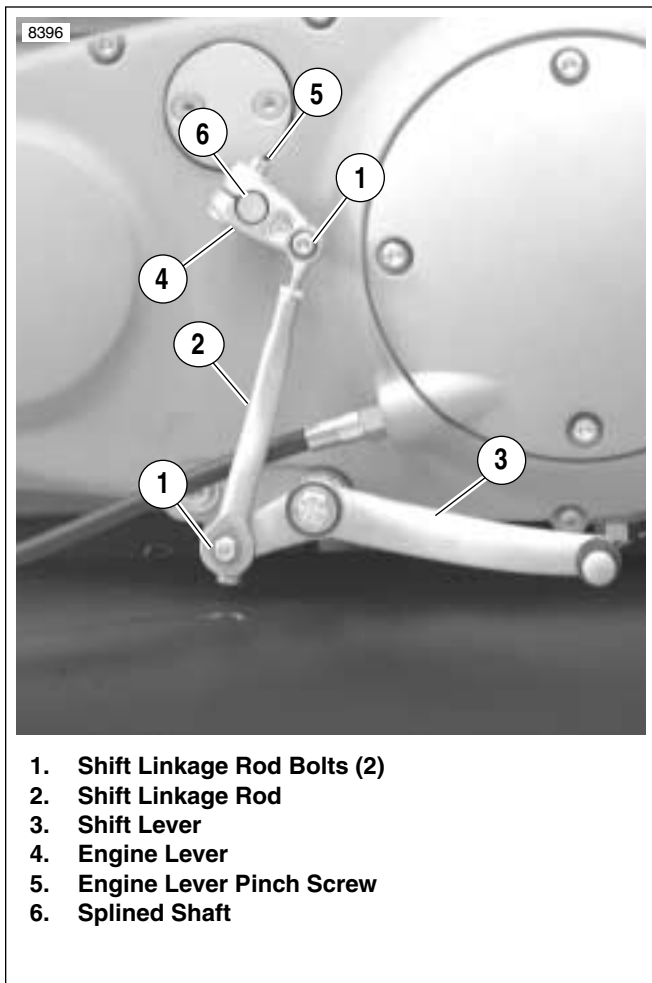

Figure 1. Shift Linkage
1. See Figure 1. Remove upper and lower shift linkage rod bolts (1). Remove shift linkage rod (2) from shift lever (3) and engine lever (4).
2. Remove pinch screw (5) and engine lever (4) from splined shaft (6). Discard engine lever (4), shift linkage rod (2) and hardware (1 and 5).
2. See Figure 1. Apply LOCTITE THREADLOCKER 243 (Blue) to pinch screw and install in engine lever.
3. See Figure 1. Tighten engine lever pinch screw to 59-66 **in-lbs** (7-8 Nm).